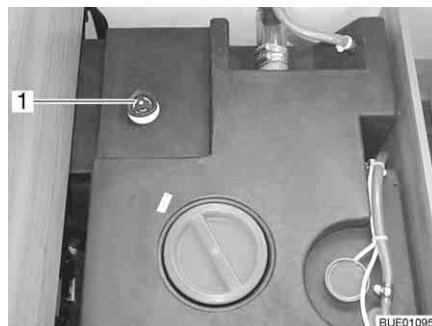

Fig. 232 Water tank with handle
- Turn the handle (Fig. 232, 1) on the water tank in an anticlockwise direction as far as possible beyond the resistance to fully open the drainage opening.